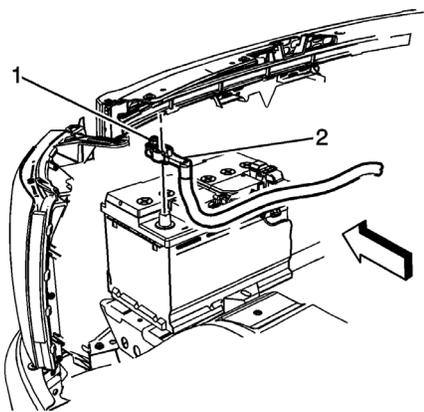

Fig. 5 Auxiliary ground battery cable clamp fastener disconnect
5. Disconnect auxiliary ground battery cable clamp nut (1), **Fig. 5**.
6. Reposition auxiliary battery ground cable (2) away from battery, **Fig. 5**.
5. Install auxiliary ground battery cable (2) onto auxiliary battery ground post, **Fig. 5**.
6. **Torque** ground battery cable nut (1) to 66 inch lbs., **Fig. 5**.